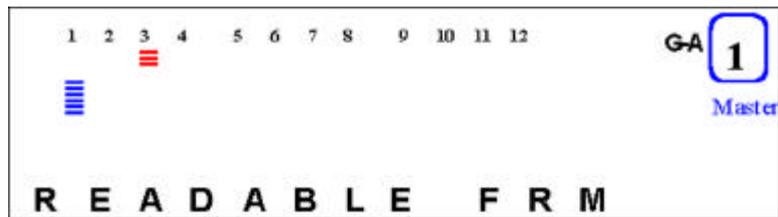

Figure 4.10 Readable Form
- 4) Press **<Enter>** to confirm the selection of the port; and go to the counter type selection menu. The name of the port statistics counter “READABLE FRM” is displayed in the Message Zone as shown in Figure 4.10.